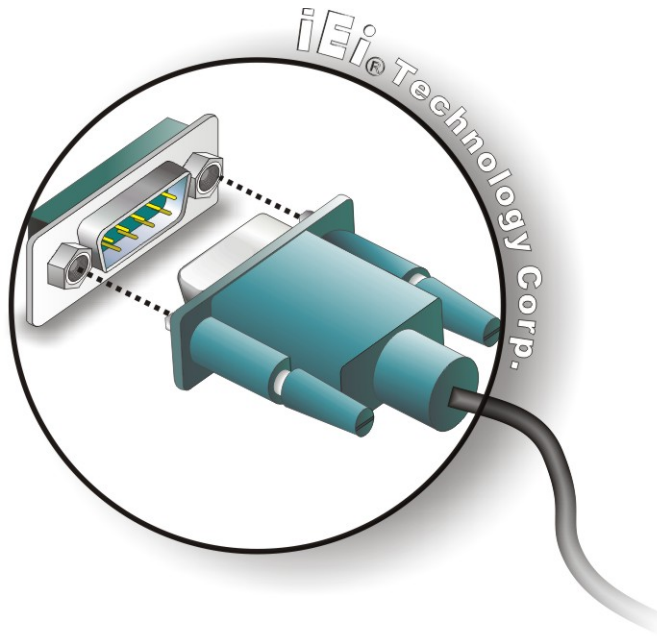

Figure 4-14: Serial Device Connector
Step 2: **Insert the serial connector.** Insert the DB-9 connector of a serial device into the DB-9 connector on the external peripheral interface. See Figure 4-14.